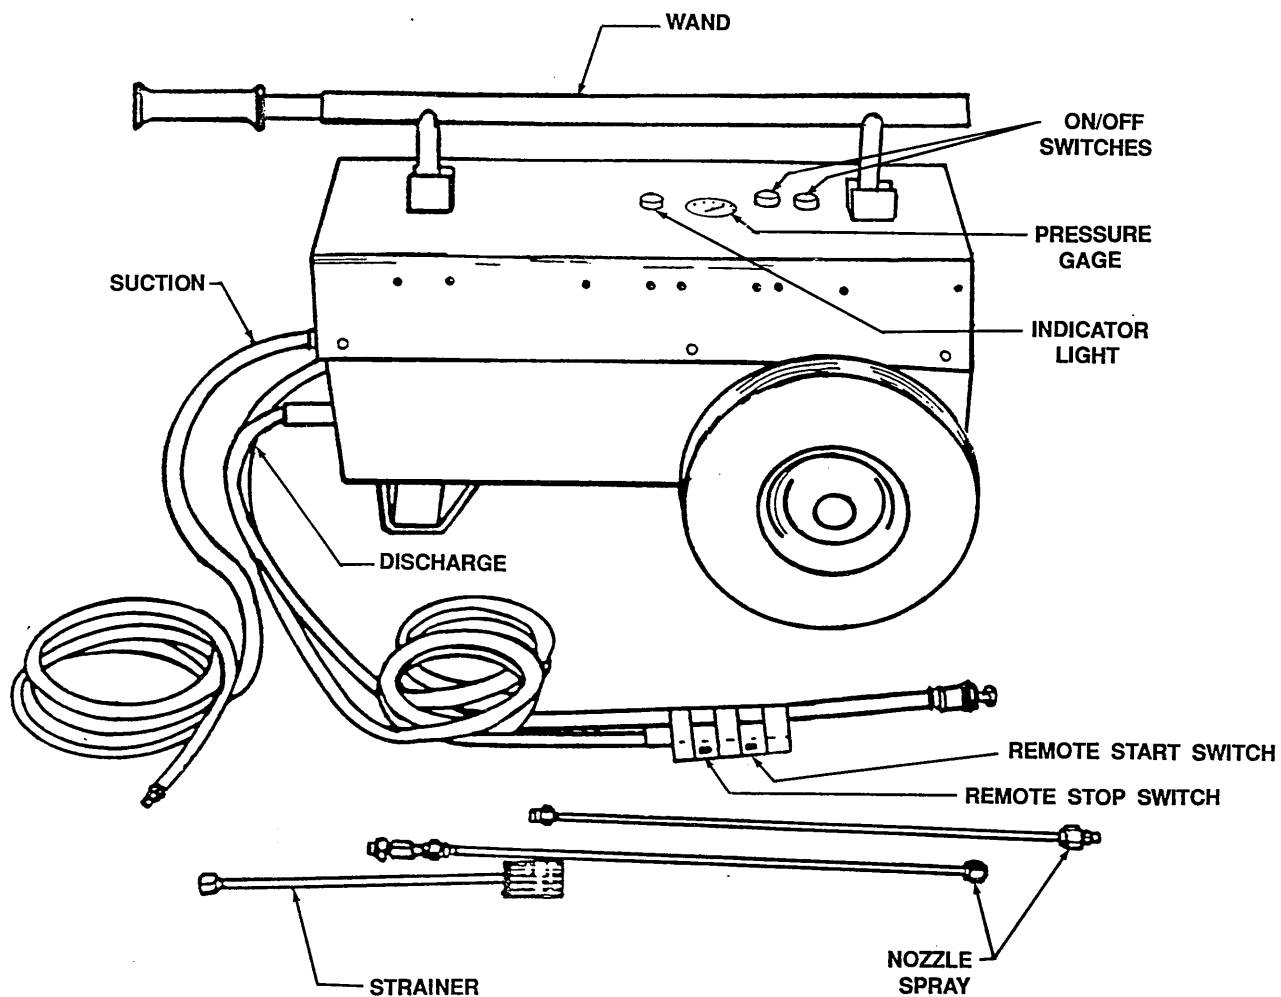

Figure 9-22. Universal Wash Unit
(6) Maintenance. Consult the applicable maintenance manual for preventive and scheduled maintenance requirements.
o. Universal Wash Unit. The universal wash unit shown in figure 9-22, is used for aircraft cleaning. The wash unit has two wheels and a single on which the unit is supported and moved about.